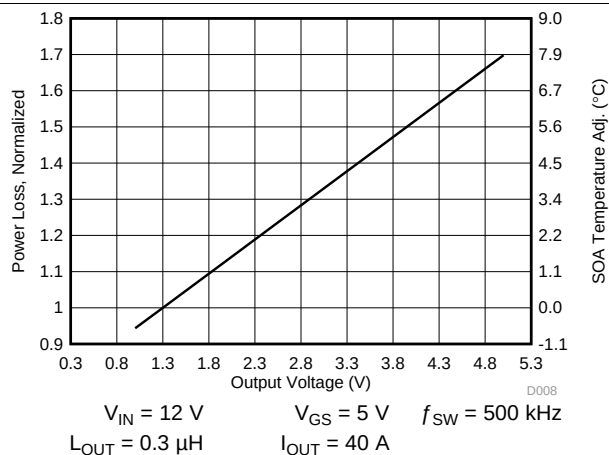

图 6. Normalized Power Loss vs Output Voltage
- Normalized power loss for output voltage ≈ 1.13 (图 6)
- SOA adjustment for output voltage $\approx 1.48^\circ\text{C}$ (图 6)